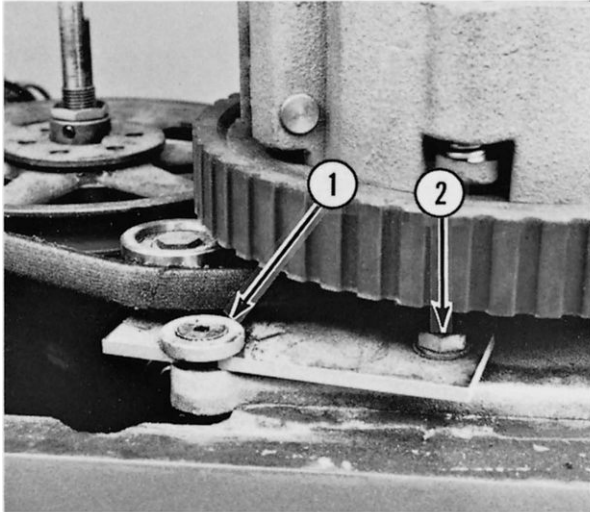

**Fig. 9-6**
(6) Remove the retaining ring (1, Fig. 9-6) and shims (2, Fig. 9-6).
(7) Remove the splined hub (3, Fig. 9-6) and key.
(8) Remove the FLEXA-GEAR DRIVE BELT.
(10) Remove the driven gear (4, Fig. 9-6).